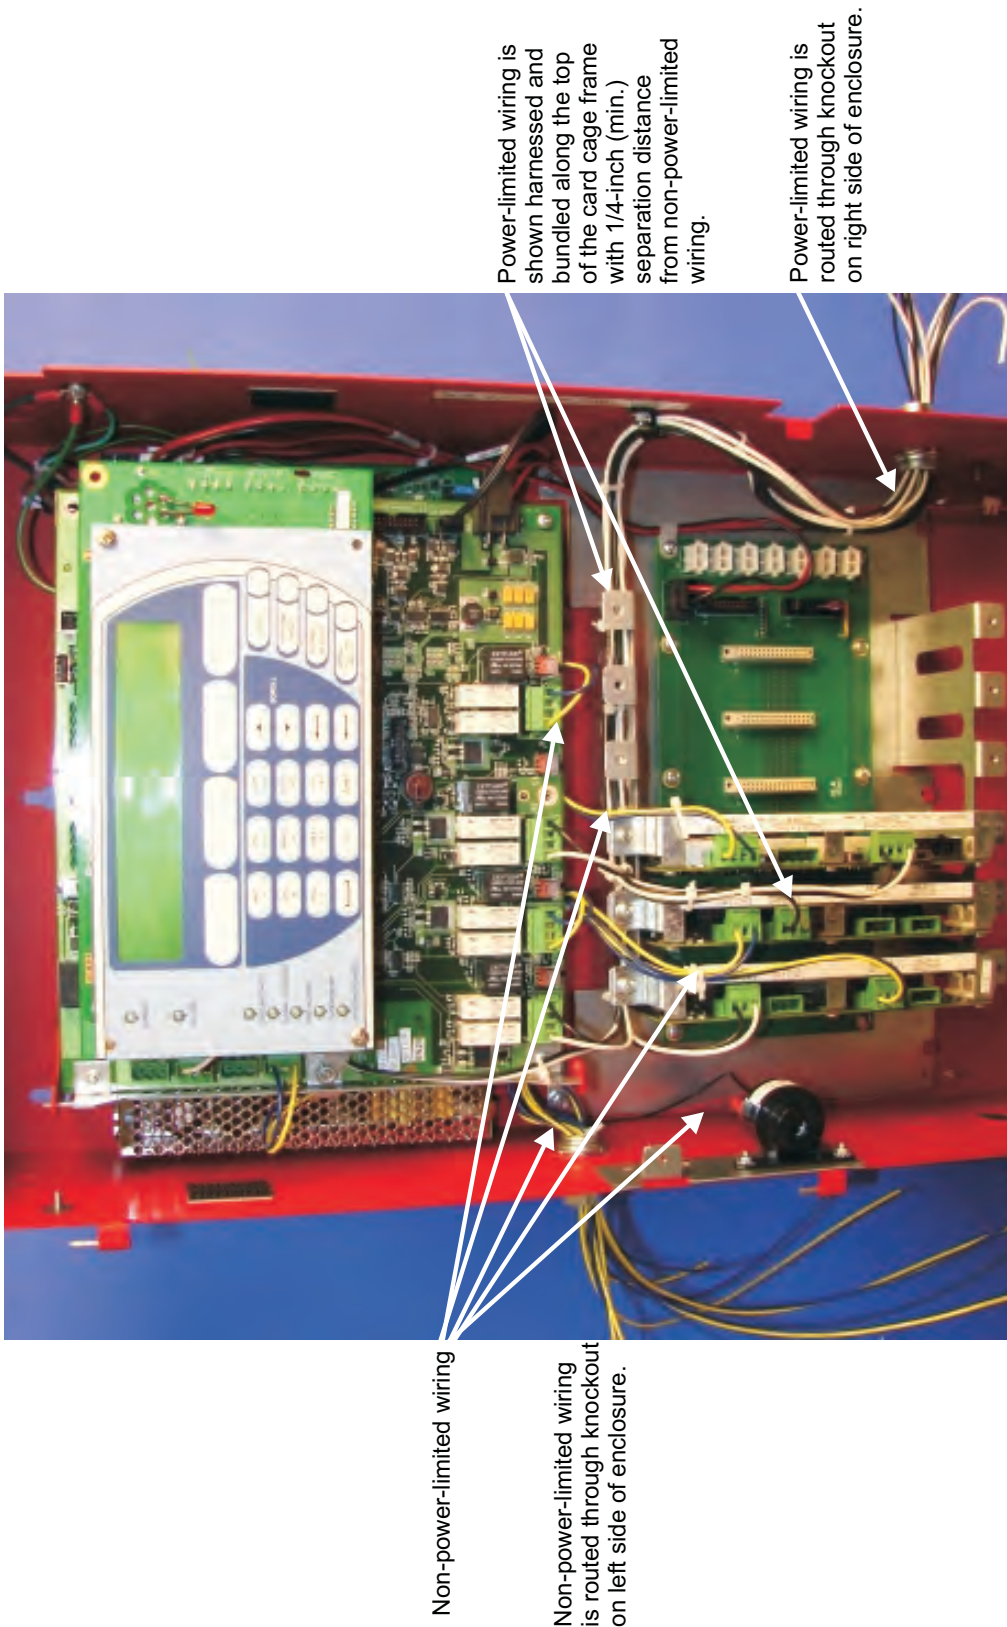

Figure E-5. An Example of a Typical FenwalNET 8000-ML Wiring Scenario
**Note:** Figure E-5 illustrates a typical wiring scenario where 3 expansion cards are included in the system with power-limited wiring (Black/White wires) and non-power-limited wiring (Blue/Yellow wires) properly spaced. Using standard wiring tools (such as P-clamps and tie-wraps), in conjunction with the enclosure standoffs, brackets and card cage frame, power-limited and non-power-limited types of circuits can easily be connected and harnessed to meet the 1/4-inch separation requirement.